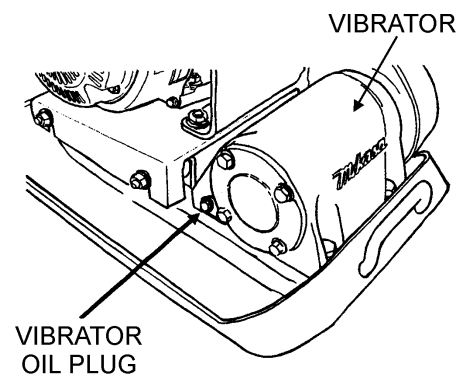

**Figure 9. V-Belt Tension**
2. The V-belt tension is proper if the V-belt bends 10 to 15 mm (Figure 9) when depressed with finger midway between the clutch and vibration pulley shafts.
3. Place the fuel valve lever (Figure 9) in the **OFF** position.